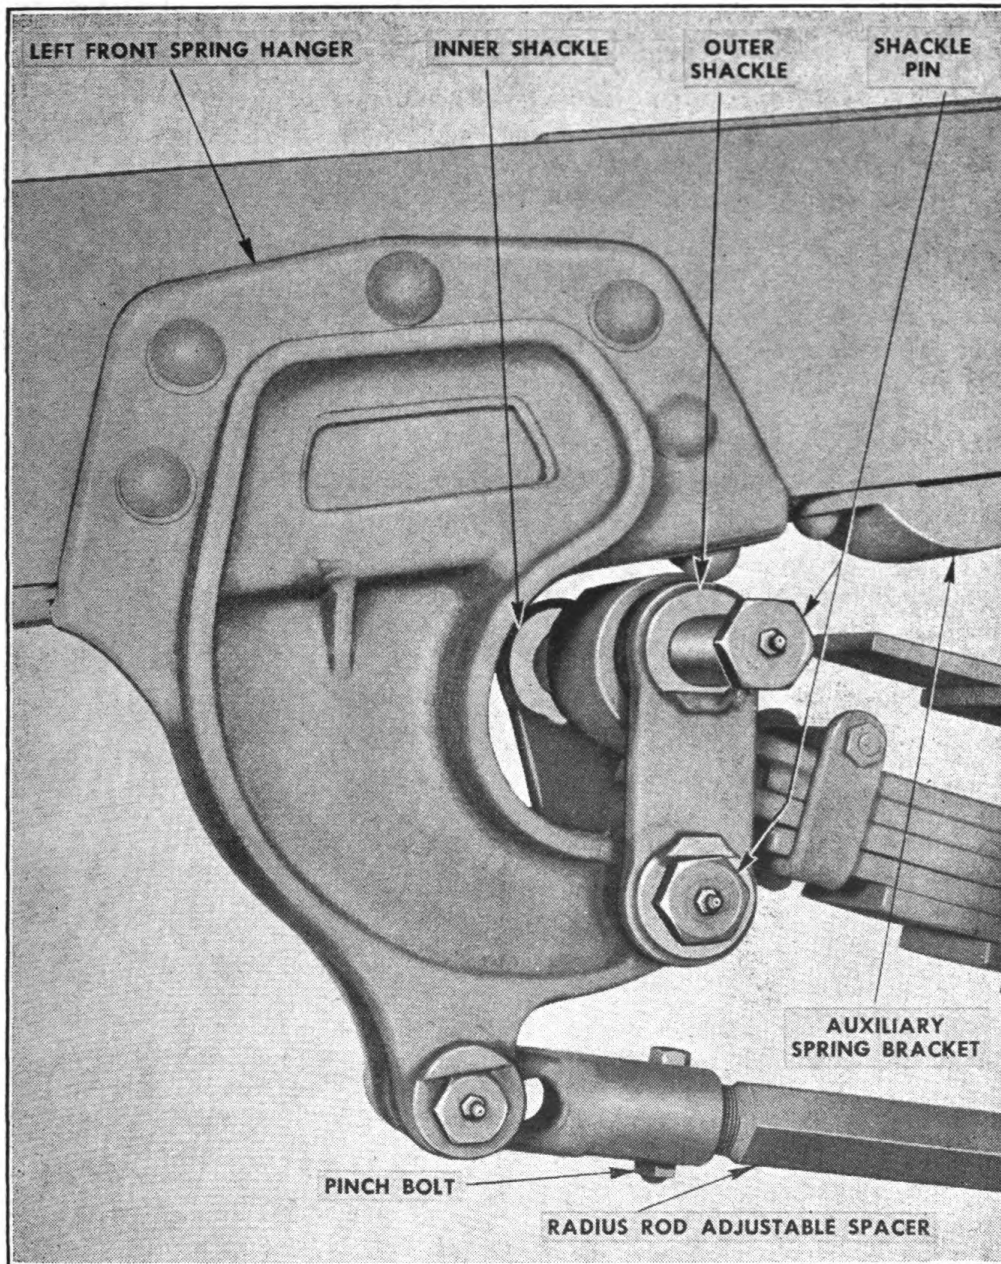

FIGURE 59. HANGER—DOLLY.
6. REMOVAL OF HANGERS-DOLLY (Fig. 59):—a. NOTE. When replacing spring hangers or auxiliary spring brackets disconnect dolly from semi-trailer.
c. Removal, front hanger (Fig. 59).—(1) Remove outer and inner wheels on both sides. With wheels removed the hanger is much more easily worked on, especially when rivets are being driven.
(2) Turn gear over and rest it on three horses; two at rear lengthwise and one at front, crosswise of frame.
(3) Disconnect radius rod at front end only.
(4) Place a jack between frame and axle to hold weight of the spring off hanger.
(6) NOTE: See paragraph 7, sub-paragraph 8, this section for general riveting instructions.
(7) NOTE: After front spring hanger has been replaced, it is necessary to check axle alignment (Paragraph 6, section II).